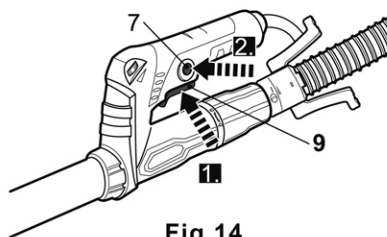

Fig.14
1. Switch the product on by squeezing the on/off switch (9) and hold it in position (Fig. 14, step 1).
2. Press the lock-on button (7) and hold it in position to lock the on/off switch (9) (Fig. 14, step 2).
3. Release the lock-on button (7) and on/off switch (9). The on/off switch is now locked on for continuous use.
4. Depress and release the on/off switch (9) to switch the product off.